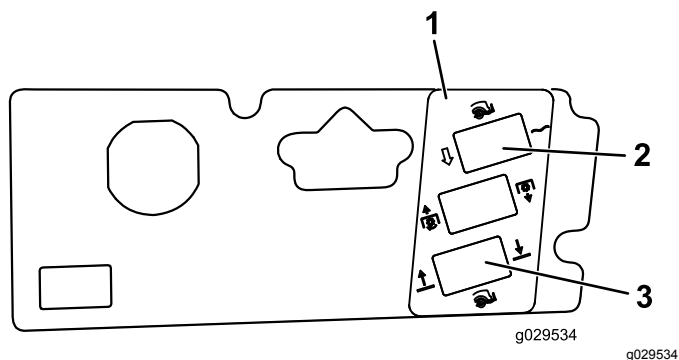

Figure 24
- Clean the control panel surface and affix the decal around the exposed holes (Figure 24).
9. Insert the switches into the appropriate mounting holes (Figure 24).